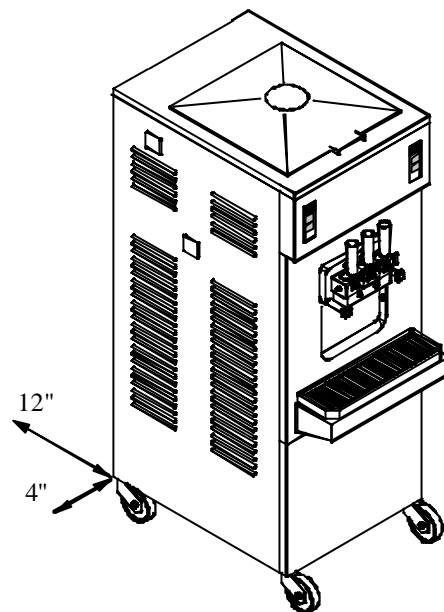

Figure 2
- 3) If your freezer is air cooled, you ***MUST*** have adequate spacing on both sides and rear of the machine. You should have a minimum of 4 inches of clearance on both sides and 12 inches of clearance on the rear of the machine. This will ensure an adequate airflow is maintained. (Ref. to Figure 2)